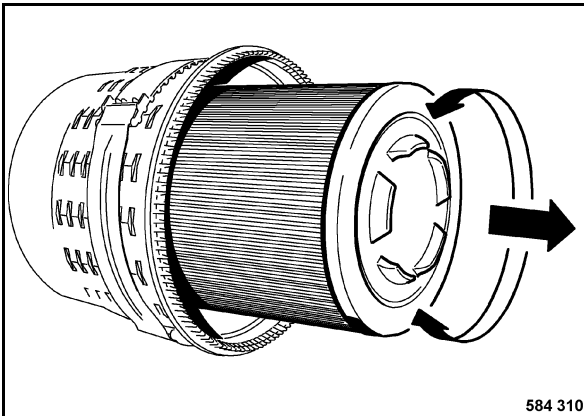

Fig. 185
- Pull out the air filter (Fig. 185) with light turning movements.